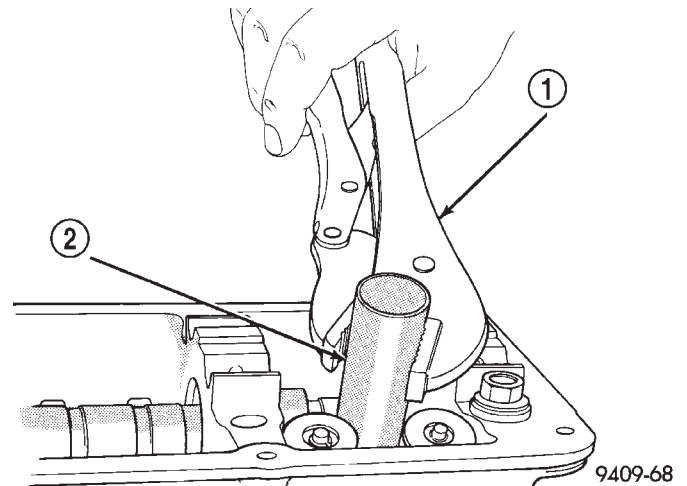

Fig. 45 Spark Plug Tube—Removal
- (1) Remove cylinder head cover. Refer to procedure in this section.
- (2) Using locking pliers remove the tube from the cylinder head (Fig. 45). Discard old tube.
- (3) Clean area around spark plug with Mopar® parts cleaner or equivalent.
- (4) Apply Mopar® Stud and Bearing Mount or equivalent to a new tube approximately 1 mm from the end in a 3 mm wide area.
- (5) Install sealer end of tube into the cylinder head. Then carefully install the tube using a hardwood block and mallet until the tube is seated into the bottom of the bore.
- (6) Install cylinder head cover. Refer to procedure in this section.